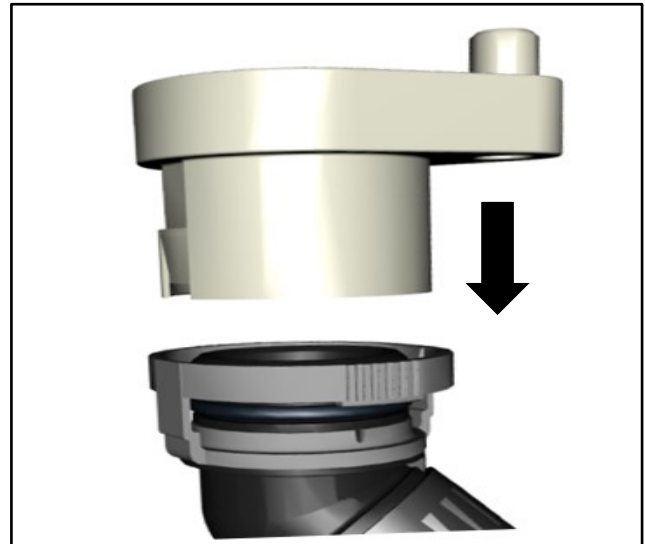

Figure 8
9. Install the adaptor to the hose (refer to Figure 8).